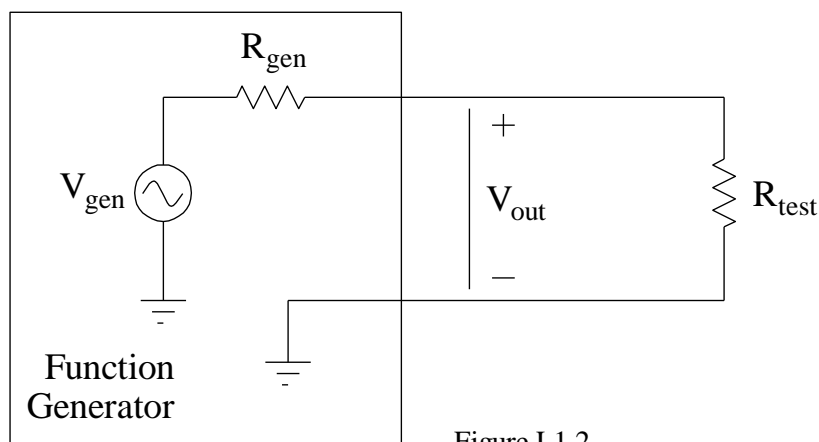

Figure L1.2
Measure the low frequency output impedance of the function generator. Do this by hooking the output of the generator to a test resistor R_{test} of value from $50\ \Omega$ to $100\ \Omega$ to ground, as shown in Fig. L1.2.
In this configuration, the voltage V_{out} indicated in Fig. L1.2 takes the form
- Choose a test resistor R_{test} with value between $50\ \Omega$ and $100\ \Omega$ and hook up the circuit shown in Fig. L1.2. Set the function generator to output a sinusoidal waveform with a reasonable choice of amplitude (e.g., 1V) and a frequency of 10 kHz or lower. Measure the value of V_{out} using your oscilloscope (with a properly compensated probe).